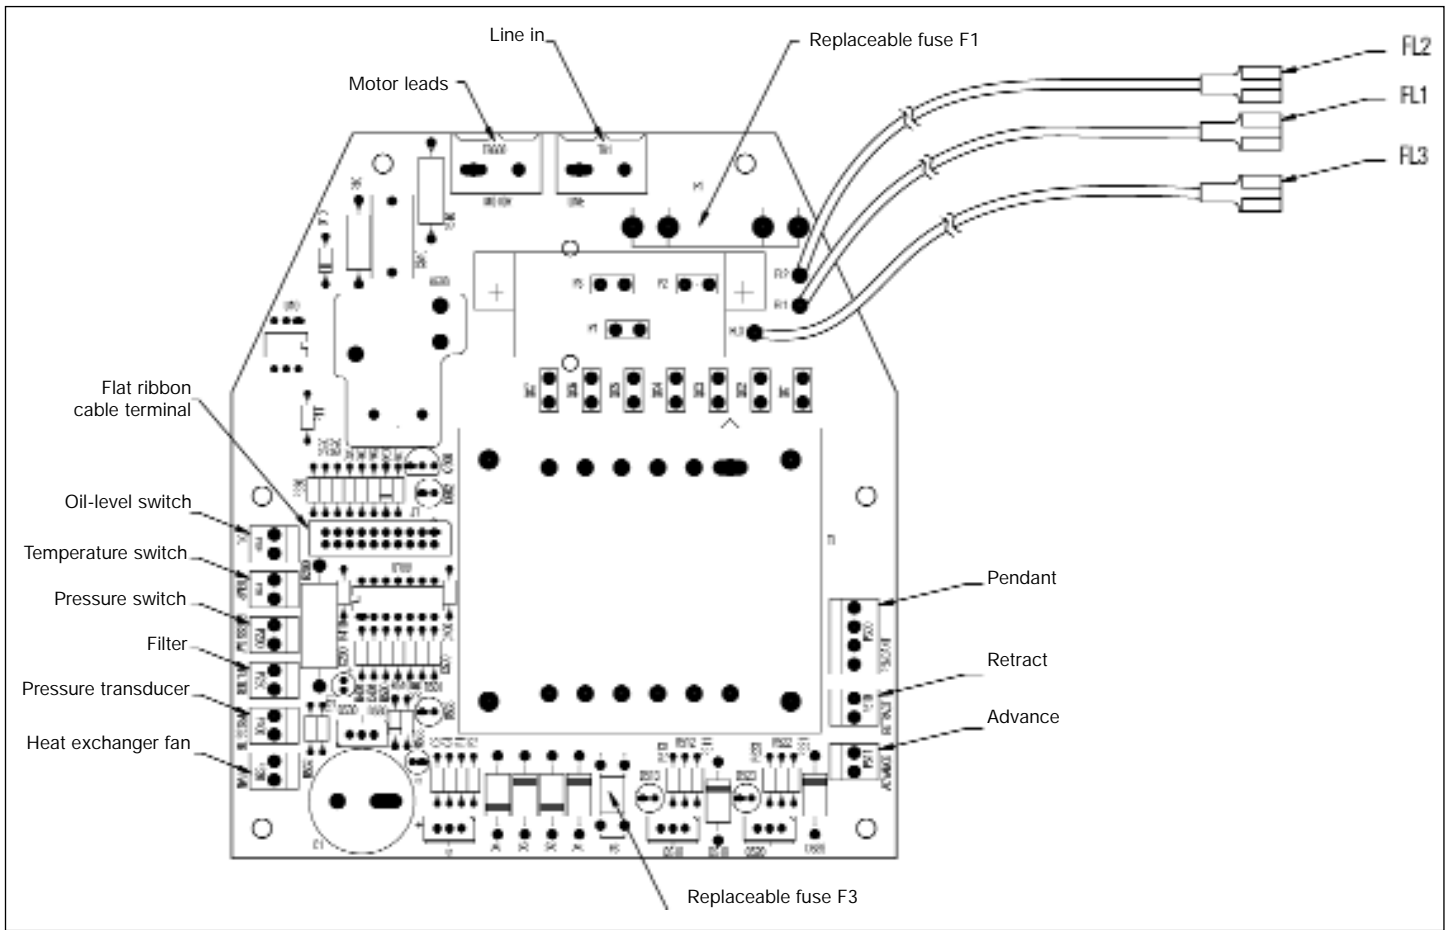

Figure 12, Electric Power Board Configuration
The pressure transducer, heat exchanger, pressure switch, pendant / foot switch, valve solenoids (A) and (B) are supplied with connectors that plug into the proper plug-ins found on the electrical power board (Figure 12).
Disconnect unit from power supply before opening shroud. Remove LCD shroud half and one small hole plug from front bracket. Route wire through front bracket, connect to power board (see figure 12), and secure strain relief. Install shroud half.
Disconnect unit from electrical power supply before opening shroud. Remove LCD shroud half and one small hole plug from front bracket. Route pressure switch wire through front bracket, connect to power board (see figure 12), and secure strain relief. Install shroud half.
| After boot-up LCD shows "P switch open"                   | Pressure switch circuit is open and press transducer is installed   | Check power board pressure switch jumper for being loose or missing (see Fig. 12).Remove pressure switch or pressure transducer from pump.  |
| LCD display shows "FILTER"                                | Loose jumper on power board   | Check power board for loose or missing jumper at filter (see fig. 12).  |